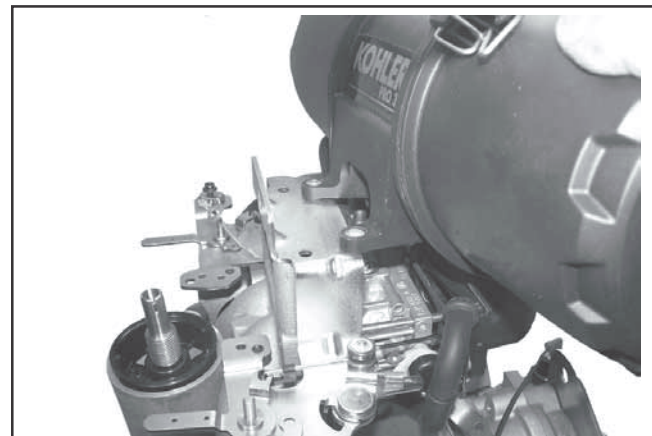

Figure 8-10. Removing Air Cleaner Assembly.
4. Remove the air cleaner as an assembly from the engine. See Figure 8-10.